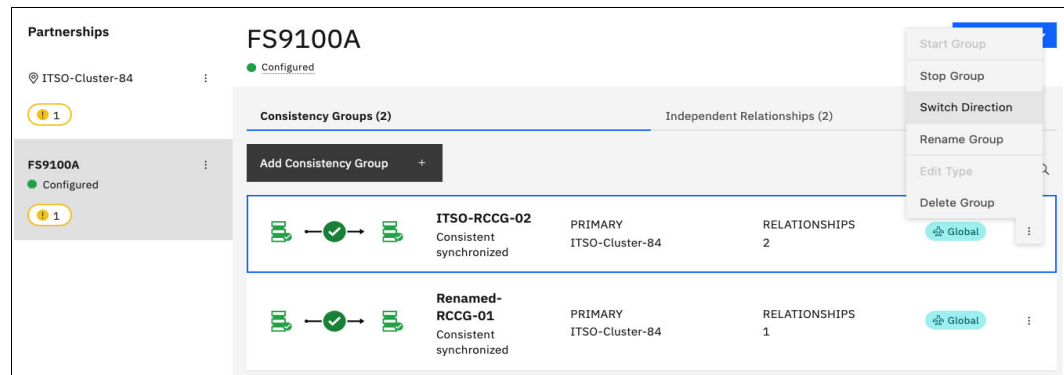

Figure 10-139 Switching a consistency group direction
2. Select the target RC system and go to the **Consistency Groups** tab. Next, click the three dots for the consistency group to be switched and select **Switch Direction**, as shown in Figure 10-139.